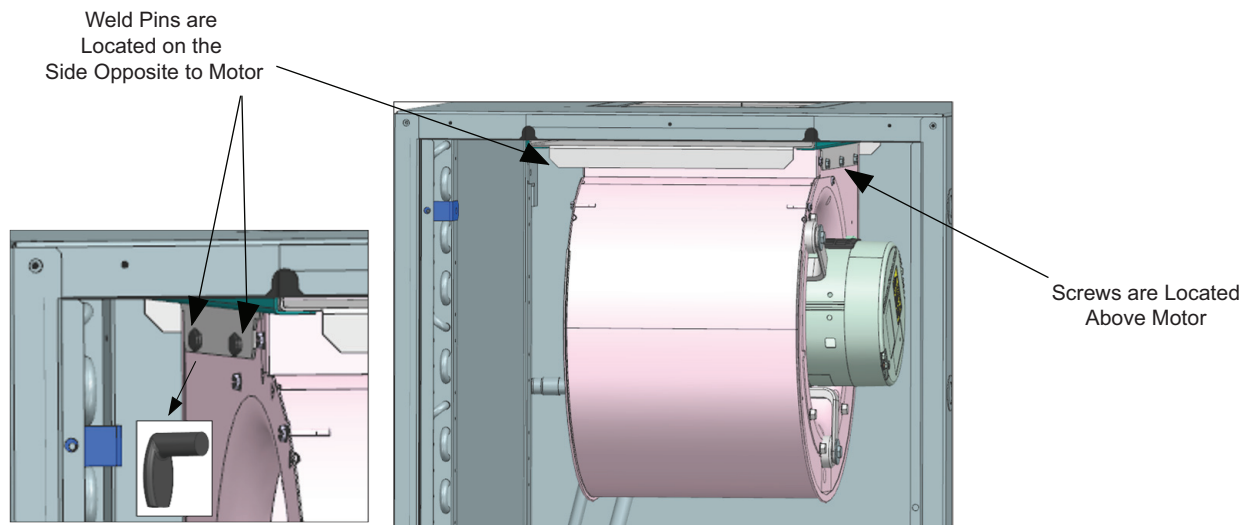

Fig. 61 — Vertical Units Blower Assembly
3. Remove the three screws positioned above the motor. See Fig. 61.
4. Drop down and slide off the welded pins situated on the opposite side from the motor. See Fig. 61.